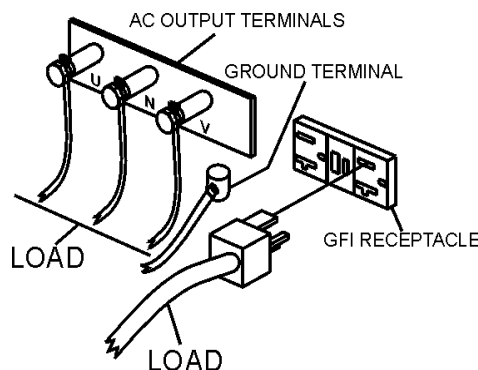

Figure 32. UVW Terminal Lugs (Load)
2. Connect the load to the UVW terminals as shown in Figure 32. These terminals can be found on the output terminal panel, see page 37, Figure 14. To gain access to the output terminals lift the UVW cover. Tighten the terminal nuts securely to prevent load wires from slipping out.
6. Remove the load from the UVW terminal strip (Figure 32 page 49).